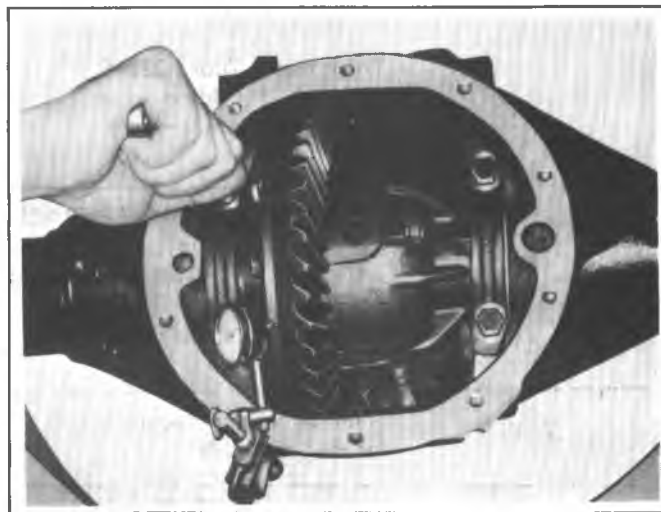

Fig. 11B--Checking Ring Gear Runout
14. If variation in backlash readings exceeds .002"; measure ring gear and case runout as shown in figure 11B. Gear runout should not exceed .003"; should runout exceed this limit, check ring gear and case for deformation and/or foreign matter between case and gear.